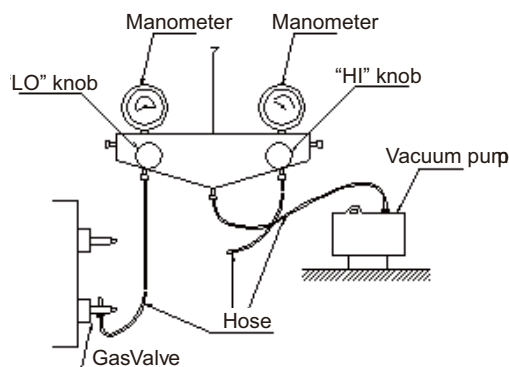

Fig.6
- 1) Refer to Fig.6 for the moments of torque for tightening screws.
- 3) After that, tighten the screw by the torque wrench unit it clatters (as shown in Fig.6).